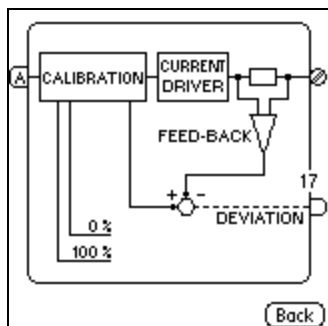

Figure 11
- Configure the parameters as desired, if you need more information about the block, please click the **i** icon at the top of this screen (Figure 11).